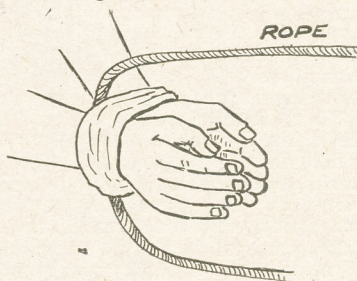

Fig. 4—The loop of the trick
The trick is shown by Fig. 4. Under the laid-over cloth the middle of the cord is worked down through the handkerchief (which can always be loosened a shade by a steady pressure of the wrists) to the palms as (B). Once made, the loop can be pulled to quite a big size and passed over one of your hands on the outside as (C). A quick jerk now and you are disengaged from the cord, having performed the apparently impossible.